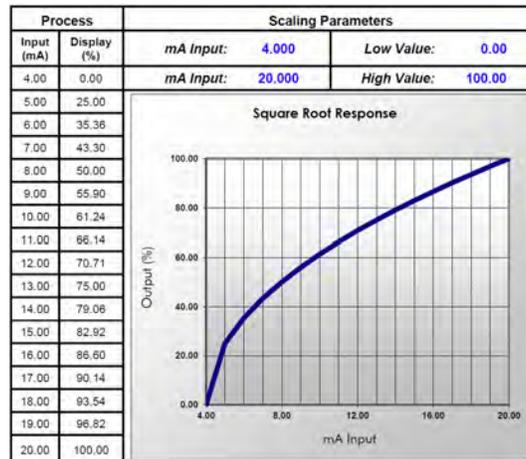

Fig 26: Square Root Response Graph
- The graph in figure 26 shows the display response based on example scaling parameters. For this mode select [Scale Square Root] from Function options.